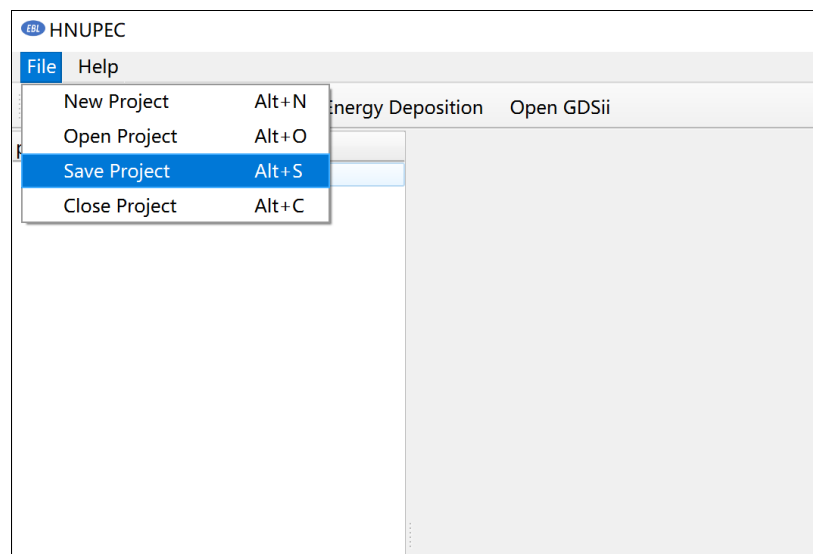

Figure 2.3.3 Save MC simulation result
- 3) After the MC simulation is completed, you can click "Save Project" in the "File" at the top of the main interface of software to save the simulation results (Figure 2.3.3). (Note: Please click the "Save Project" button to save the project in time.)